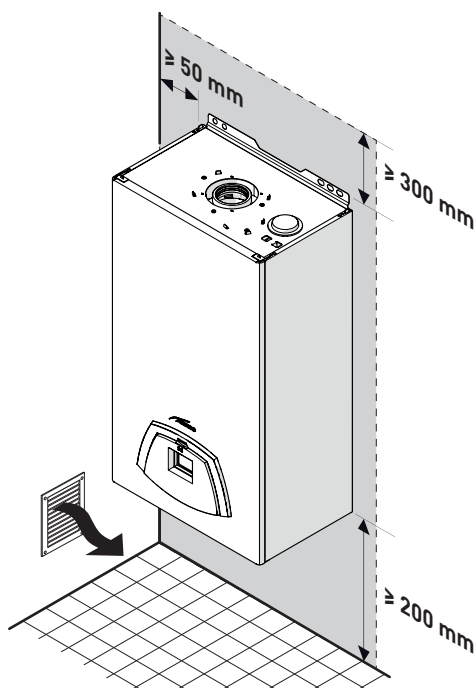

Fig. 17
- Remember to consider the space needed in order to access the safety/adjustment devices and to carry out maintenance interventions (see Fig. 17).